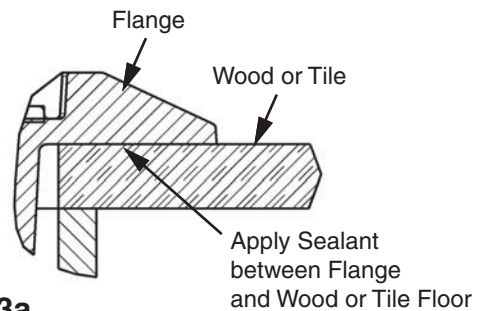
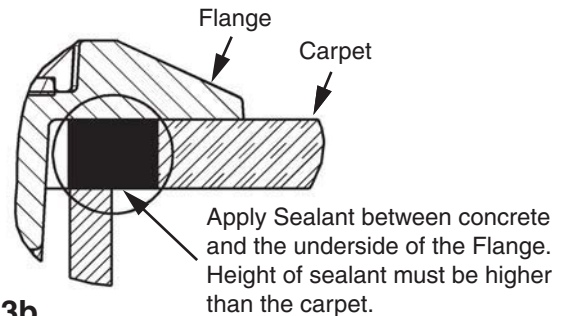

Figure 3a
Figure 3b
- 2) Apply clear silicone sealant as shown in Figure 3a for wood or tile floor covering or Figure 3b for carpet floor covering. Assemble Cover to Floor Box.